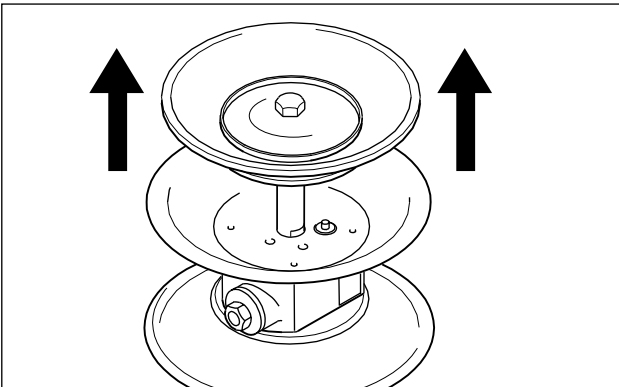

Fig. 11: Pulling out the piston rod.
- Pull the piston rod with the second diaphragm out of the central block and disassemble the second diaphragm as described before (Fig. 11).
- Pull the piston rod with the second diaphragm out of the central block and disassemble the second diaphragm (Fig. 11).